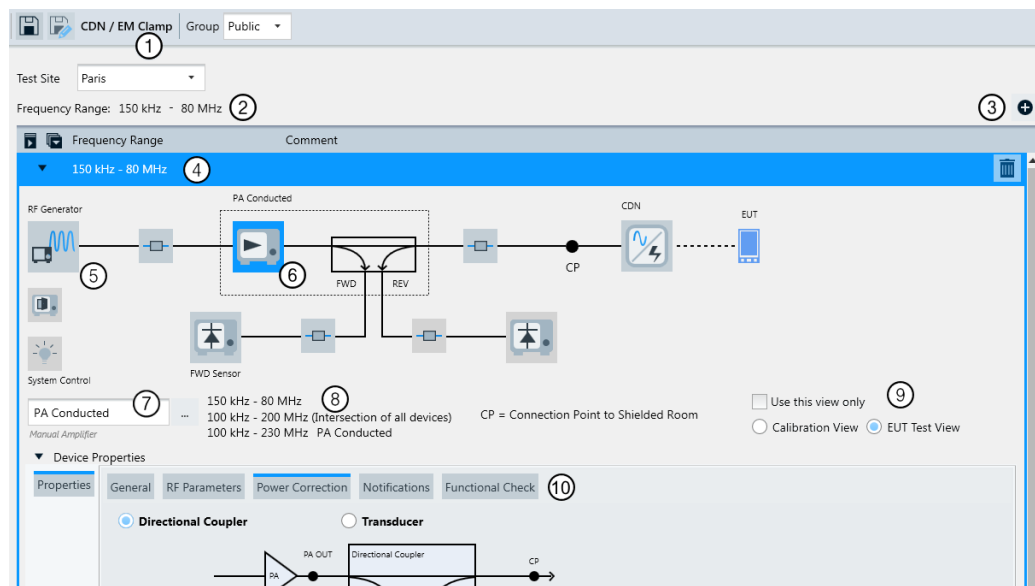

Figure 4-145: Example of an EMS hardware setup dialog
To add a frequency range, click the  button (labeled (3) in Figure 4-145). Per default, the added frequency range covers the next 10 MHz or 1 GHz on top of the highest existing frequency range:
A text line in the top of the dialog (labeled (2) in Figure 4-145) summarizes the total range from the lowest start frequency to the highest stop frequency of all ranges. This statement of the total frequency range within the hardware setup is just for your information and disregards any possible (preliminary) gaps.
The hardware setup diagram is available in two views (see buttons labeled (8) in Figure 4-145). Unless you select "Use this view only", both views must be configured: